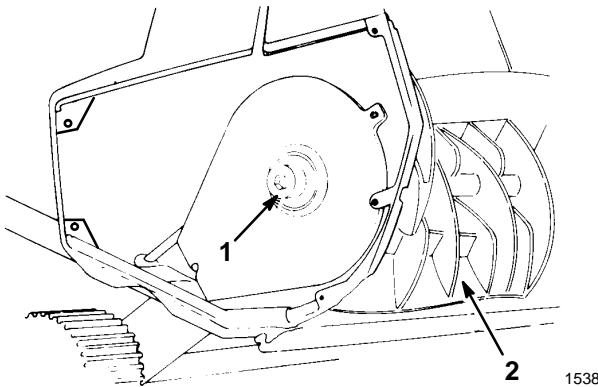

Figure 13
- Using a 3/8" Allen wrench, turn rotor shaft clockwise (left hand thread) while holding rotor (Fig. 13). The Allen wrench may need to be tapped with a hammer to loosen rotor shaft. Wedge a stick or hammer handle in rotor to prevent rotation.